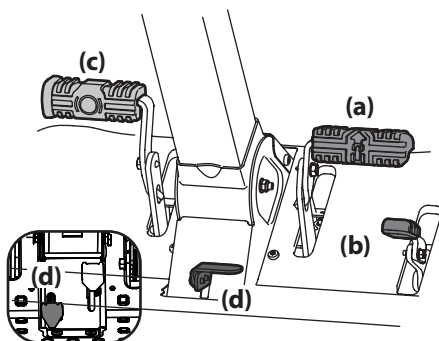

Figure 3-4
2. To travel FORWARD, slowly press the forward drive pedal (a) forward until the desired speed is achieved. See Figure 3-4.
6. To travel in reverse, check that the area behind is clear then slowly push forward on the reverse drive pedal with the ball of your foot (NOT your heel) until the desired speed is achieved. See Figure 3-4.